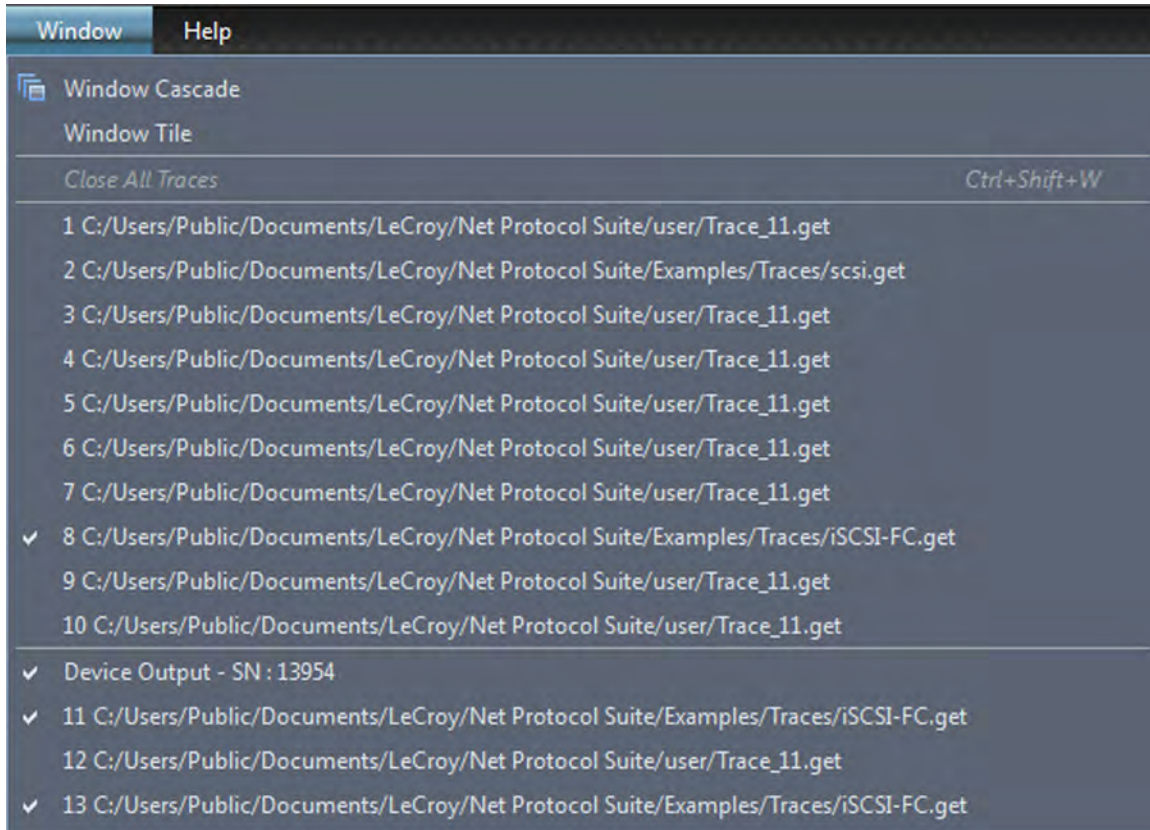

Figure 3.115: Window Dialog with Open Traces, Recent Traces and Active Devices
- Close All Traces - closes all open traces, see Figure 3.115.